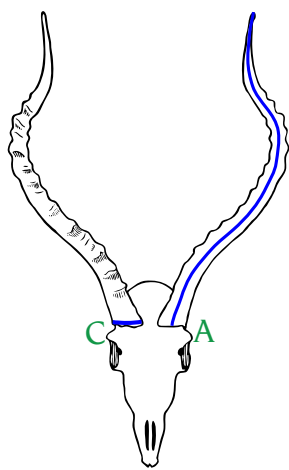

Figure 1 Impala
In this category, animals such as hartebeests and impalas show twists and turns, and the grain of the horn must be followed along the central axis of the horn. (Figures 1 and 3) The blue line shows the correct way of following the grain with a cable, and the red line demonstrates the incorrect way. Note that the red line does not start on the center front of the horn, but rather on the side and, thus, the line has to cut across the grain to get to the center axis of the horn (Figure 3).
1. Length. Measure the length of the each horn on the front curve (in the center of the horn) from the lowest edge of the base to the tip. (Figures 1 to 5, 7, & 8, A–B)
2. Circumference. Measure the circumference of the base of each horn in a continuous loop. (Figures 1, 2, 5, & 7, C)